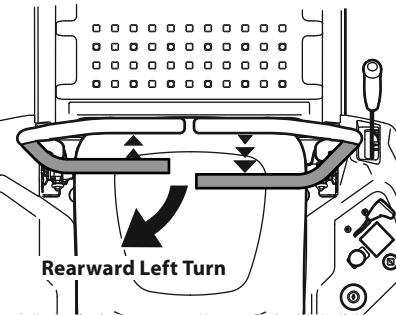

Figure 29
1. To turn to the left while traveling in reverse, move the left drive control lever forward of the right drive control lever. See Figure 29.